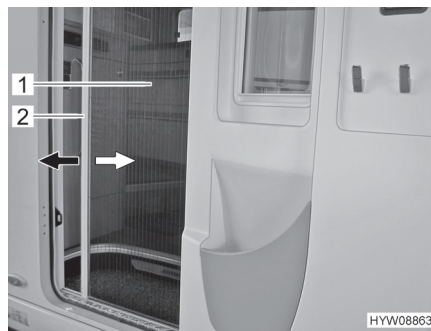

Fig. 57 Insect screen (conversion door)
- Hold holding bar (Fig. 57,2) with both hands and pull the insect screen (Fig. 57,1) evenly out of the door holder.
- Hold holding bar (Fig. 57,2) with both hands and push the insect screen (Fig. 57,1) back into the door holder applying slight pressure.